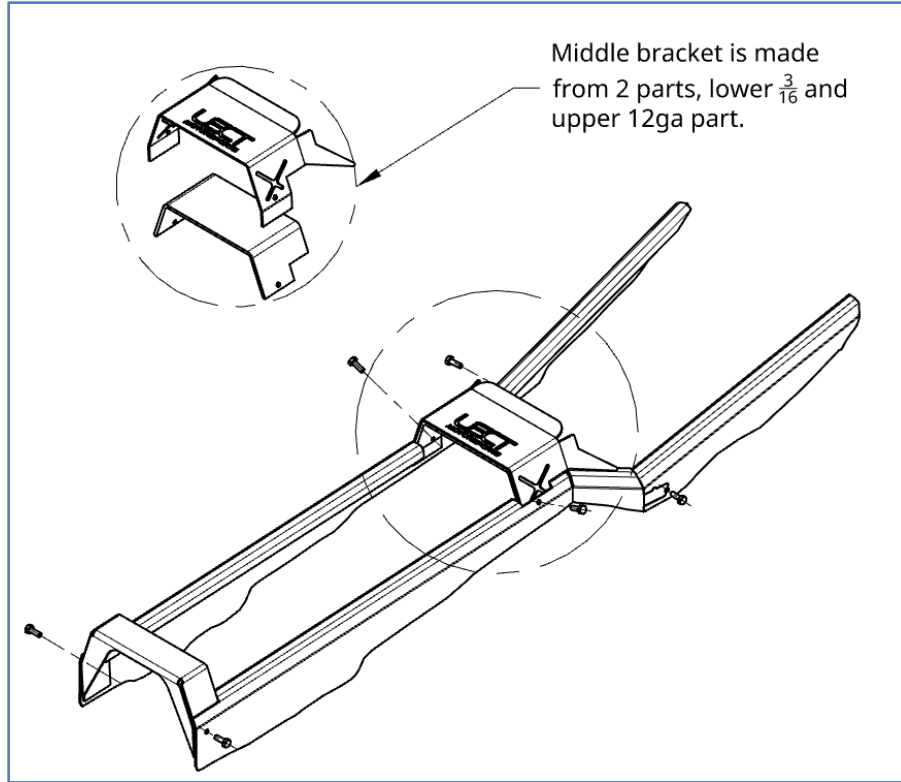

Figure 1 - Perimeter Transmission Tunnel Frame without covers or firewall eyebrow brace
4. Assemble your perimeter frame as shown in Figure 1 using the six (6) temporary ¼-20 fasteners (3 per side). The firewall eyebrow brace, front tunnel cover and rear tunnel cover do not bolt on and will be used later, set them aside for the moment.